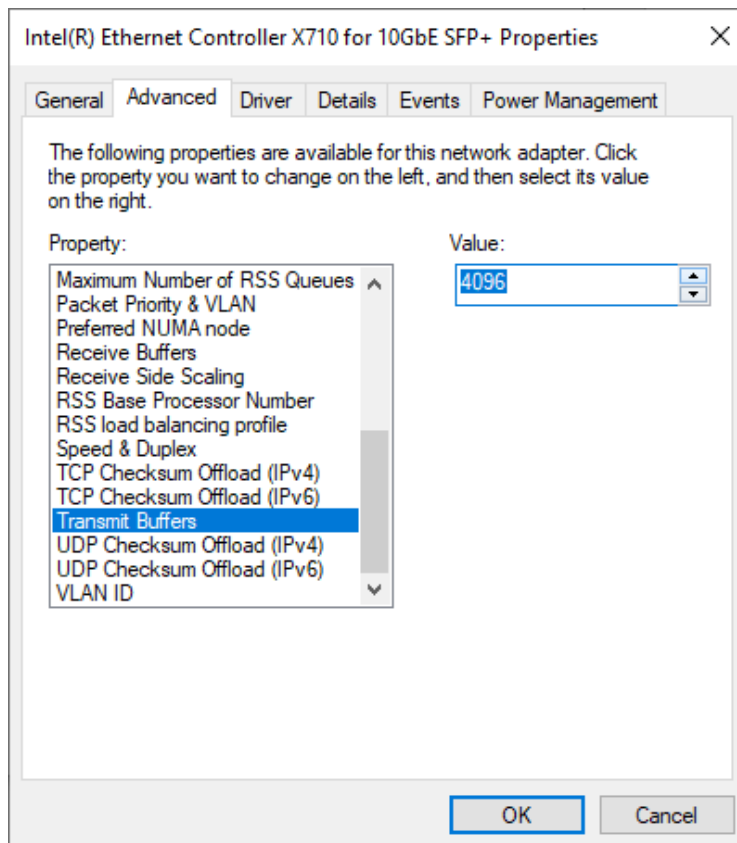

Figure 10 Transmit buffers
5) On “Transmit Buffers” window, set value to the maximum value, as shown in Figure 10.